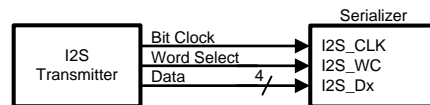

Figure 11. I²S Connection Diagram
The DS90UH929-Q1 serializer features six I²S input pins that, when paired with a compatible deserializer, supports 7.1 High-Definition (HD) Surround Sound audio applications. The bit clock (I2S_CLK) supports frequencies between 1 MHz and the lesser of IN_CLK/2 or 13 MHz. Four I²S data inputs transport two channels of I²S-formatted digital audio each, with each channel delineated by the word select (I2S_WC) input. Refer to Figure 11 and Figure 12 for I2S connection diagram and timing information.